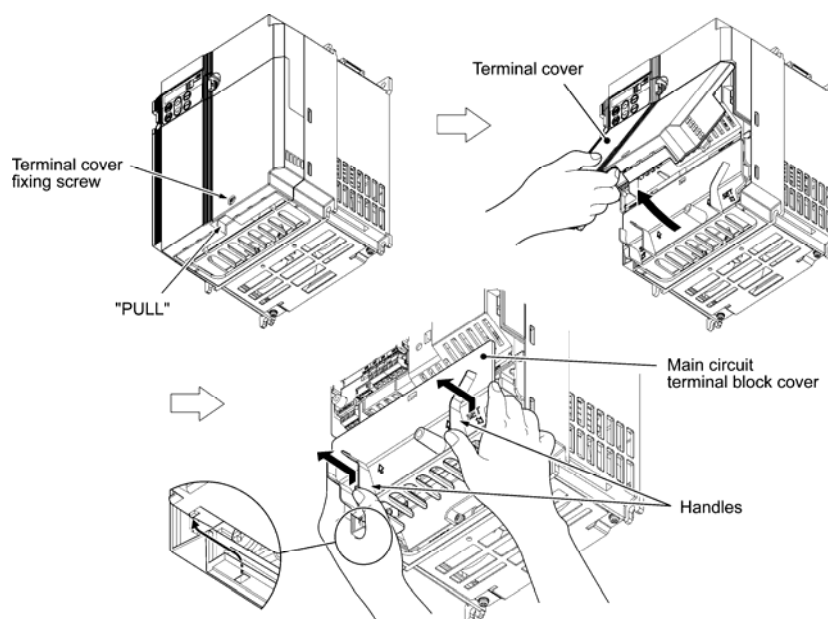

Figure 3.2 Removing the Covers (For Inverters with a Capacity of 5.5 and 7.5 kW)
(2) For inverters with a capacity of 5.5 and 7.5 kW
- ① To remove the terminal cover, first loosen the terminal cover fixing screw, put your finger in the dimple of the terminal cover (labeled "PULL"), and then pull it up towards you.
- ② To remove the main circuit terminal block cover, put your thumbs on the handles of the main circuit terminal block cover, and push it up while supporting it with your fingers (Refer to Figure 3.2).